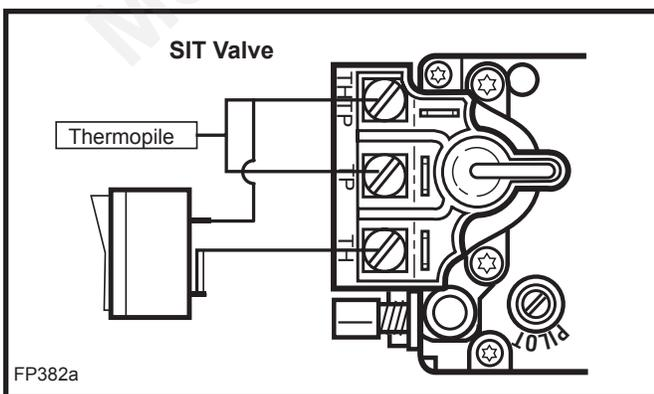

Fig. 9a On/Off switch or millivolt thermostat.
4. Connect wiring from the switch to the gas valve (Fig. 9a & b).